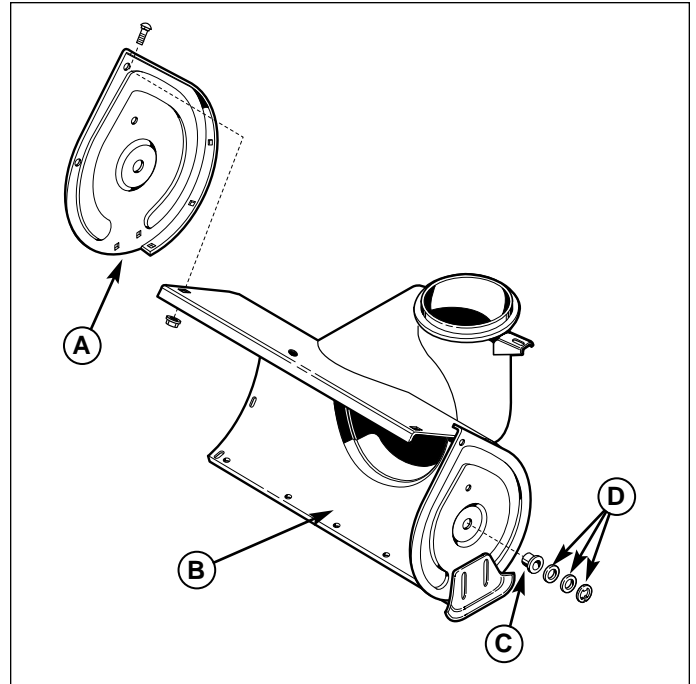

Figure 4. Assemble Housing
1. Install the side covers (A, Figure 4) and secure with the original hardware.
2. Reinstall the bearings (C), washers, and retaining rings (D) in both side covers.